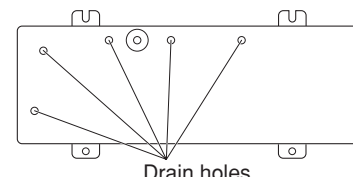

Fig. 5c
- provide a solid base (level concrete pad, concrete block, 6" x 1'4" (15 x 40 cm) beams or equal), a minimum of 6" (15 cm) above ground level to reduce humidity and protect the unit against possible water damage and decreased service life. (Figs. 5c and 5d)